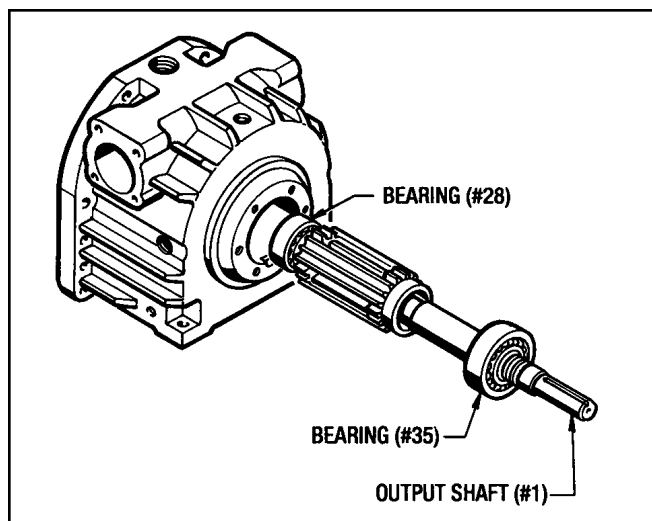

Figure 9.2 - Installing Output Shaft Sub-Assembly
1. Guide the Output Shaft Sub-Assembly into the Output Housing (#9). (See Figure 9.2)